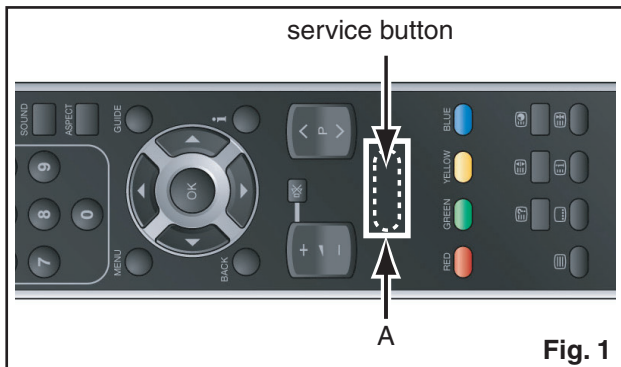

Fig. 1
Cut “A” portion of the attached remote control unit as shown in Fig. 1.
3. Press the service button on the service remote control unit as shown in Fig.1.